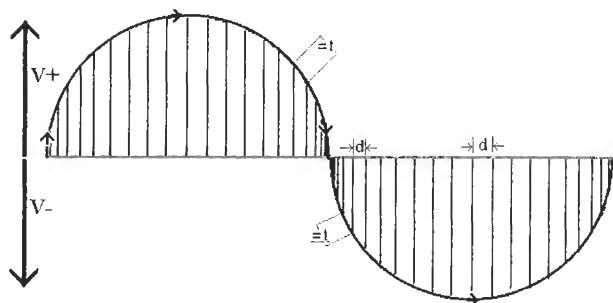

Figure L49-8
3. And it is not easy to show something that moves backward, because time moves forward. So Figure L49-8 shows the negative voltage movement happening after the positive voltage.